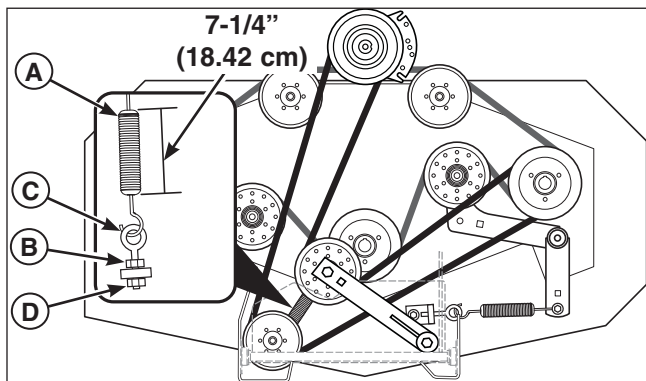

Figure 44. PTO Drive Belt Idler Tensioner Spring
2. Measure the coil to coil length of the PTO drive belt tensioner spring (A, Figure 44). It should measure 7-1/4" (18.42 cm). If it does not, perform the *Adjusting the PTO Drive Belt Idler Tensioner Spring Length*.